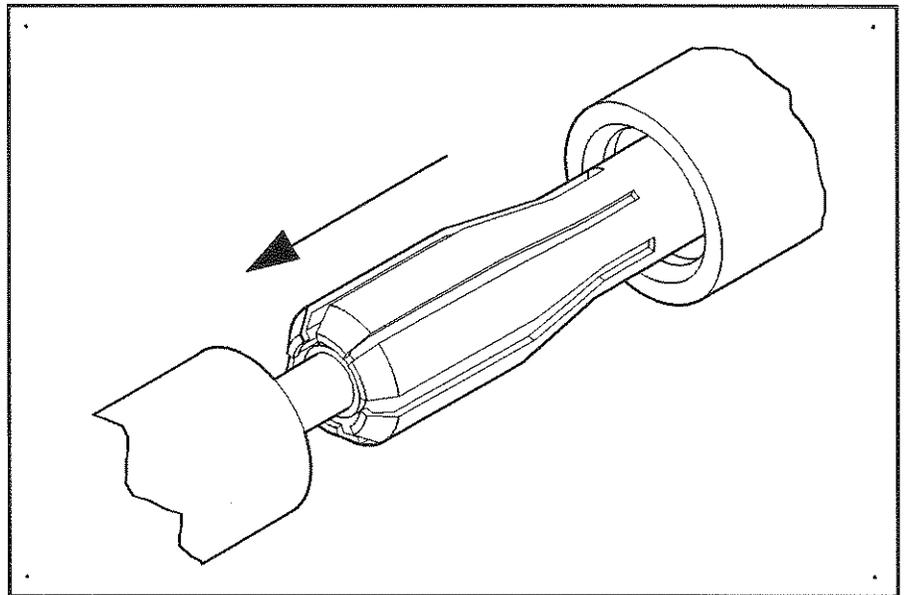

Figure A-14. Removing the Inner Contact
- d. Once you engage the tool by 2 turns, you can remove the inner contact. Pull the tool and inner contact straight out away from the center conductor (see Figure A-14).